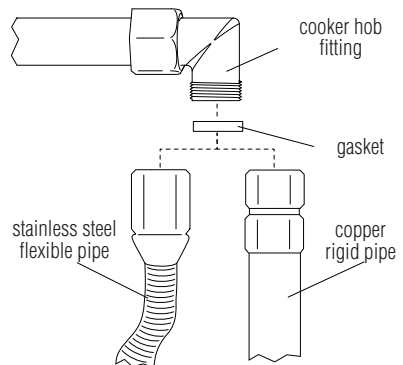

Fig. 6: connection to the gas supply network
**The connection to the gas supply network** can be completed using **rigid copper piping** or **with a continuous flexible steel pipe** on the wall, according to established regulations that are parts of the regulations in force [Fig. 6]. In any case **every pipe connected to the gas supply network must be equipped with a safety interception valve.**